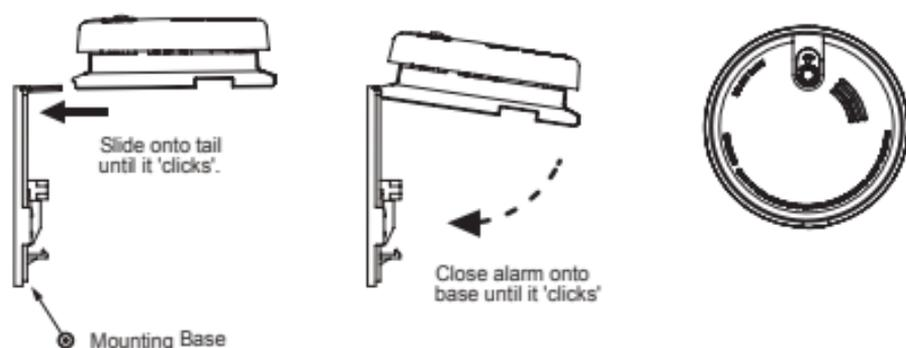

Figure 5
- Connect the alarm to the base tail first, and then swing the alarm closed onto the base until a “click” is heard. (See Figure 5)
To clean your alarm, remove it from the mounting bracket as outlined in "page 16 Battery Replacement or page 11, Figure 5". You can clean the interior of your alarm (sensing chamber) by using compressed air or a vacuum cleaner hose and blowing or vacuuming through the openings around the perimeter of the alarm. The outside of the alarm can be wiped with a damp cloth.